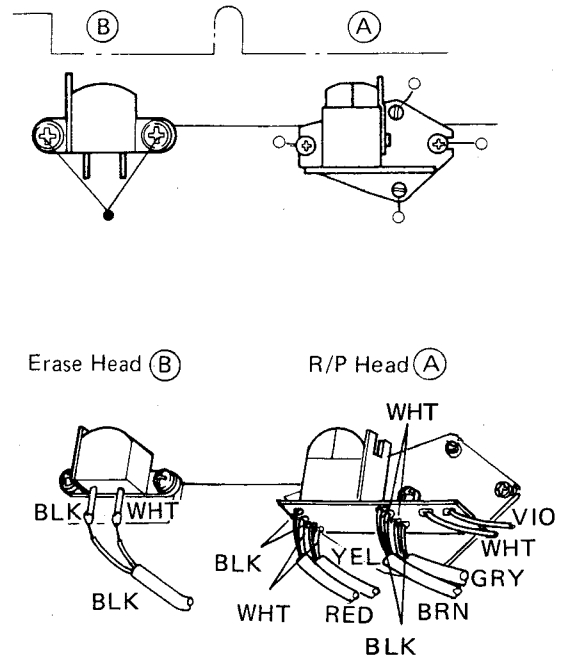

Figure 10
- (2) Remove four screws marked "○" and wires from both sides of the R/P head "A", as shown in Figure 10, and it can be removed, with head P.C. Board. Remove the head from the P.C. Board with a soldering iron. Remove two screws marked "●" and wires from both sides of the erase head "B" as shown in Figure 10, and it can be removed.
- (3) After finishing assembling, adjust head azimuth, height and tilt angle.